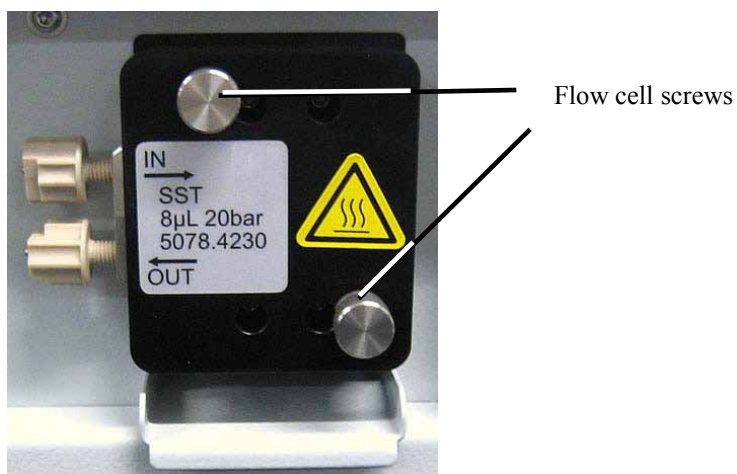

Fig. 38: Loosening the flow cell screws
3. Loosen the two flow cell screws (→ Fig. 38) until they are loose but *not* unscrewed completely. The screws are captive in the flow cell and do not need to be removed.
2. Tighten the flow cell screws (→ Fig. 38) hand-tight.